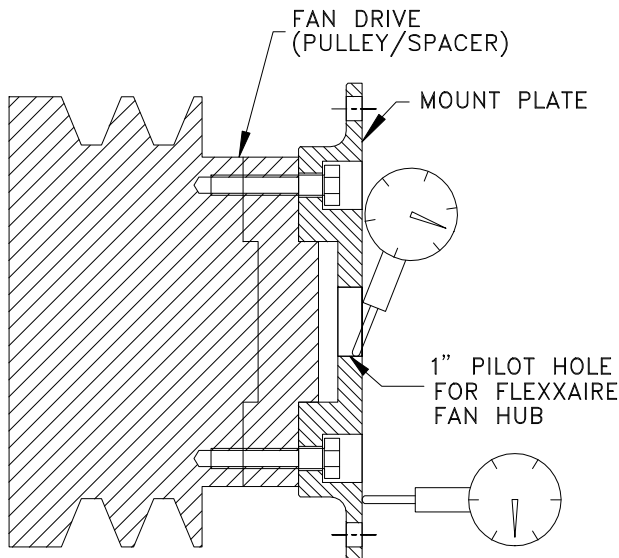

Figure 3: Adapter Plate Mounting
- A.** Install the Flexxaire supplied mounting adapter using bolts from the original fan. If the bolt length needs to be changed, use an equivalent or better grade of bolt. Follow original equipment manufacturer's torque and thread locking specifications when installing the mounting adapter to the fan drive. Refer to **Figure 3**.
- B.** Set up dial gauge to measure axial deviation of the mounting adapter on the fan mounting surface. Deviation should not exceed 0.005". Refer to **Figure 3**.
- C.** Set up dial gauge to measure radial deviation of the mounting adapter on the 1" pilot hole surface. Deviation should not exceed 0.005". Refer to **Figure 3**.